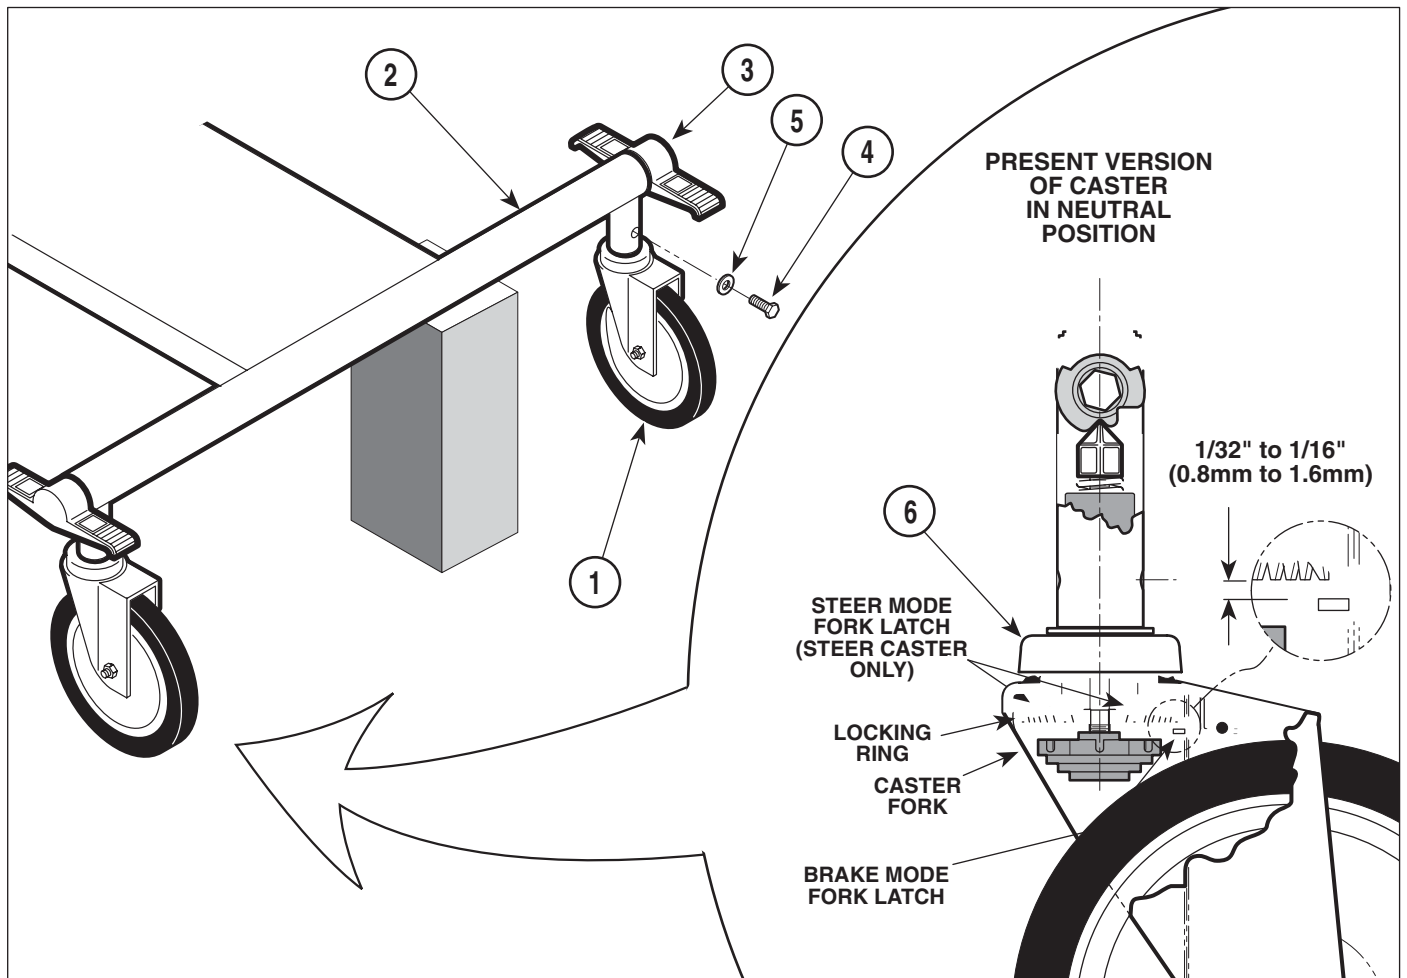

Figure 4-27. Caster Fork Controls Adjustment
- (1) Lift caster (1, Figure 4-27) which needs adjusted, off of the floor approximately 1 in. (2.5 cm). Place a support under chassis (2) to hold caster at that height.
- (2) Move caster control pedal (3) to "neutral" position.
- (3) Remove two screws (4) and lockwashers (5) from chassis (2).